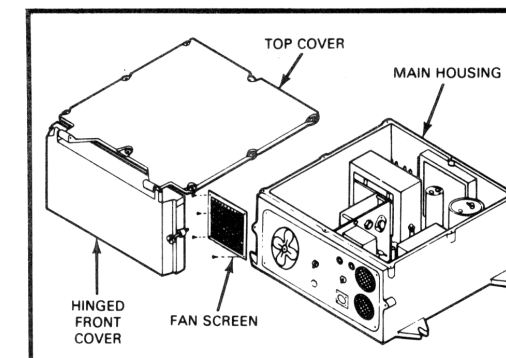

Figure 3. Top cover and fan screen.
4. Inspect blower and fan (Figure 3).